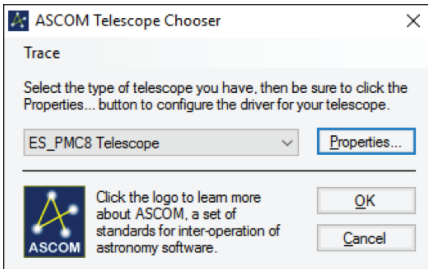

Figure 1. ASCOM Telescope Chooser window.
18. The ASCOM Chooser window will display. Find and select "ES_PMC8.Telescope" in the drop-down list. (Figure 1.)